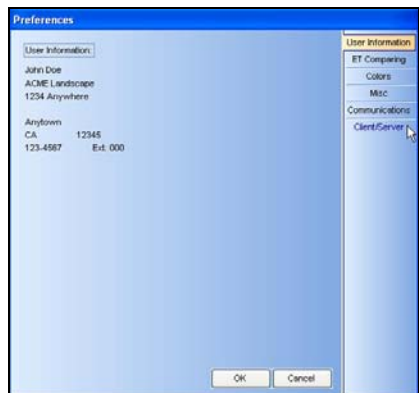

Figure 2.0.9
1. Click on the **Client / Server** tab (Figure 2.0.9).